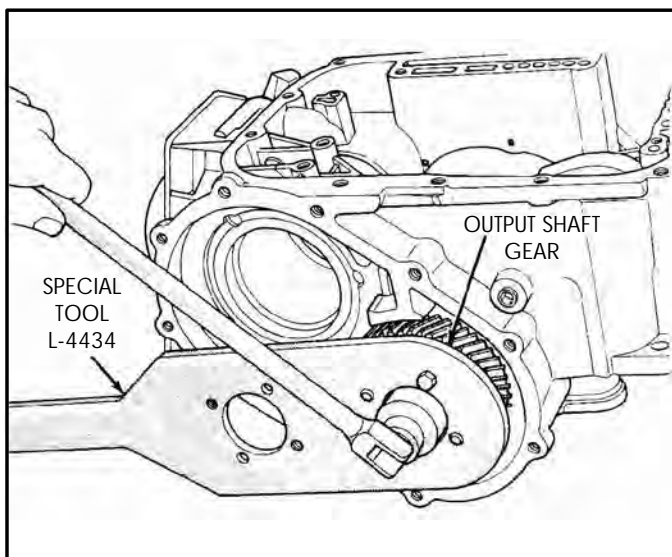

Figure 132
16. Install special tool L-4434 on output shaft gear as shown in Figure 132, to remove output shaft gear retaining nut.